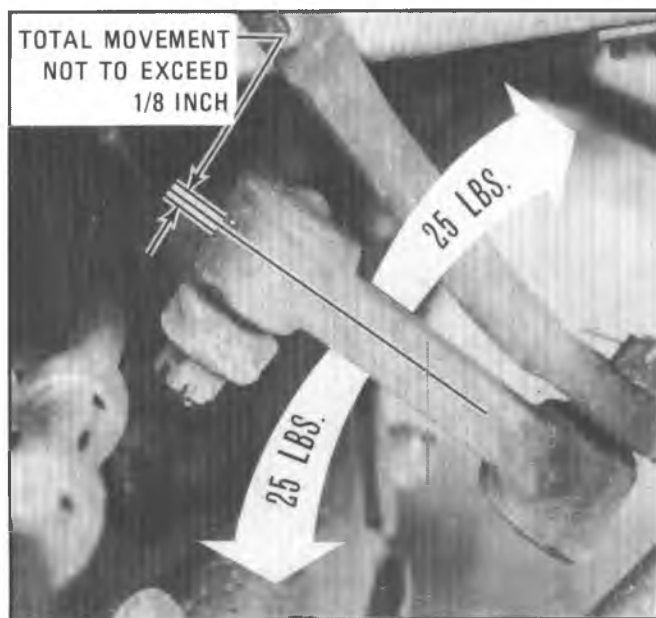

Fig 3A--Checking Idler Movement
2. Using a push pull type spring scale located as near the relay rod end of the idler arm as possible, exert a 25 lb. force upward and then downward while noticing the total distance the end of the arm moves. This distance should not exceed 1/8 inch (Figure 3A). It is necessary to ensure that the correct load is applied to the arm since it will move more when higher loads are applied. It is also necessary that a scale or ruler be rested against the frame and used to determine the amount of movement since observers tend to over-estimate the actual movement when a scale is not used. The idler arm should always be replaced if it fails this test.